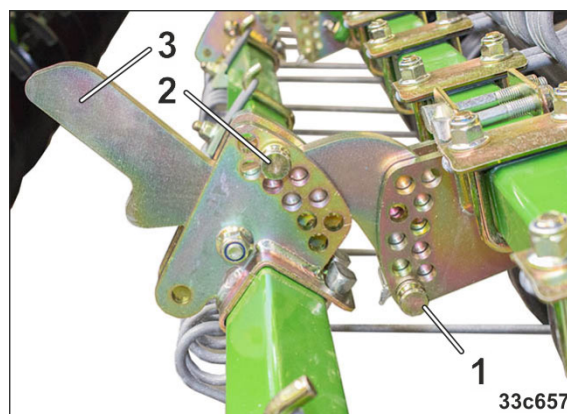

Fig. 193
3. Hold the harrow tines beam by the carrier handle (Fig. 193/3).
4. Set the working depth of the harrow tines by positioning the carrying arm with the pin (Fig. 193/1)
6. Change the pitch of the harrow tines to the ground by repositioning the pin (Fig. 193/2)
Ensure that the pin (Fig. 193/2) is positioned below the carrier (Fig. 193/3) in the adjuster segment.
The lower the pin (Fig. 193/2) is inserted in the adjuster segment, the flatter the pitch.
7. After each repositioning, secure the pin (Fig. 193/2) with a spring cotter pin.